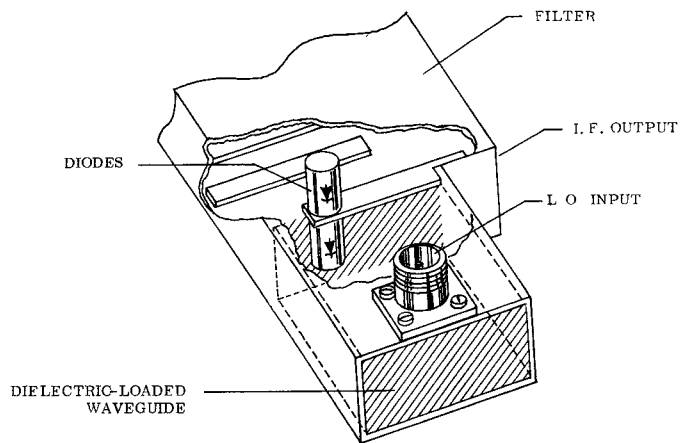

Figure 5. Orthogonal Mode Mixer - Combine Filter
**The Orthogonal Mode Mixer - Comblne Filter.** If a pair of diodes are placed between the coupling section and ground planes of a comblne filter then the diodes are excited 180 degrees out of phase. A signal filter is then constructed so that its output is coupled to the diodes. A waveguide whose dominant mode electric field is coupled to the diodes from the other side of the filter in such a manner that the diodes are excited in phase is used and the i-f is brought through the base of the input transformer by means of a low pass filter. Figure 5 shows the configuration of the mixer-filter. The dimensions of the filter are such that the waveguide mode will not propagate, so that the general properties associated with the diplexer-mixer are obtained. The typical noise figure and VSWR are similar to orthogonal mode mixers allowing for insertion loss of the filter and the improvement due to an open circuit image frequency termination. Hot carrier diodes due to their small size and low r-f impedance are used in this device.